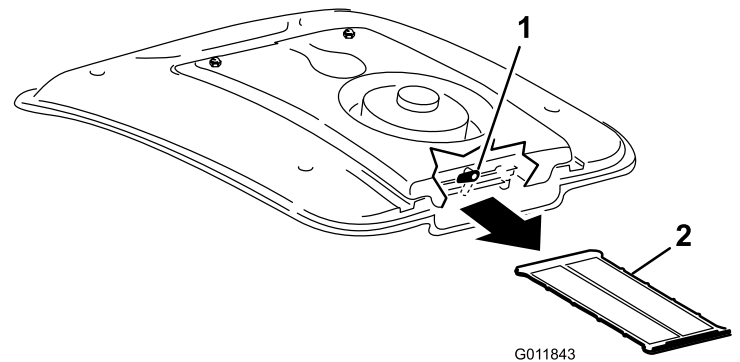

Figure 51
3. Slide the A/C screen out from under the air conditioning coil (Figure 51).
4. Clean the screen thoroughly with compressed air (Figure 51).
2. On the rear of the fan mount, rotate the latch to the side (Figure 51).